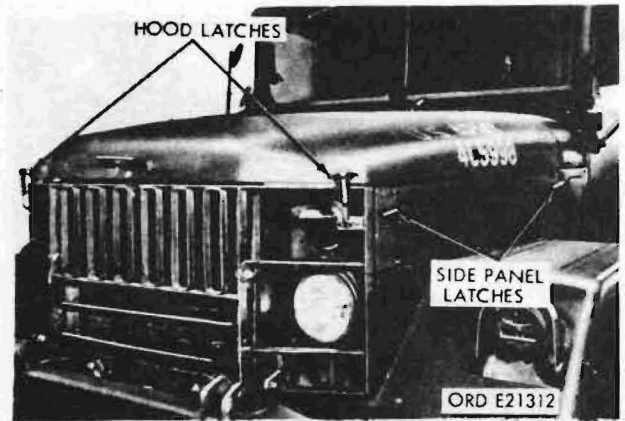

Figure 38. Hood and side panel latches.
(23) *Hood and side panel latches* (fig. 38). The hood latch, centrally located between the bars of the brush guard, is pushed in to release the hood. Two hood holddown catches, located on the front corners of the hood, are engaged to lock the hood in the down position. The side panel latches, one on each end of each side panel, are turned to lock the side panels in the raised position.